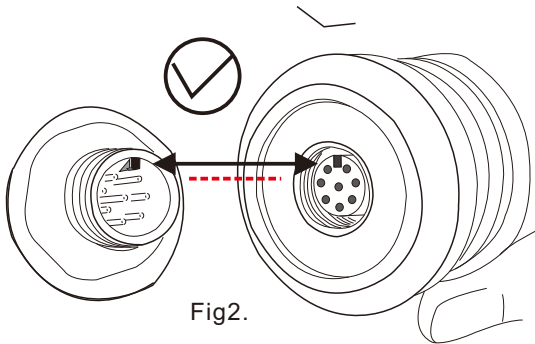

Fig2.
**CAUTION** Be sure of alignment of the Key-Slot as Fig2, then crew in securely.